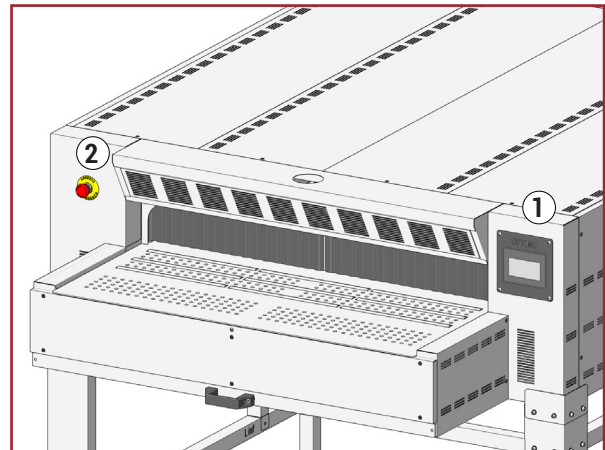

Fig.13
The oven is equipped with two emergency stop buttons (2), one in the loading area and one in the unloading area (see Fig.13), the activation of which immediately stops the operation of the oven without disconnecting the power supply to the electrical cabinet and the operator panel.